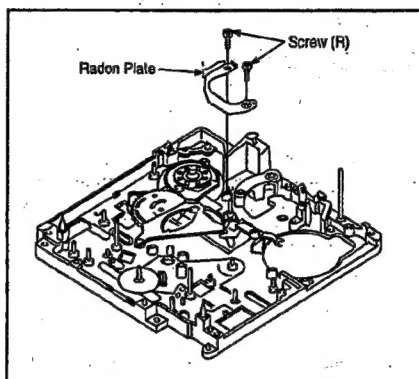

Fig. M25
14. Radon Plate, Radon Arm & T1 Arm Fig. M25 Remove the Cut Washer (Q) and S1 Arm Unit.